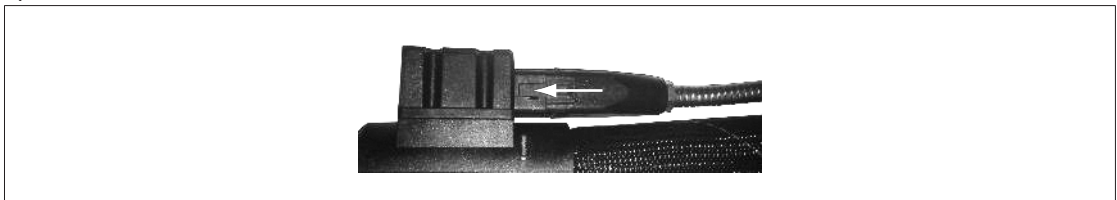

Figure 4: Connect the electrical connection to the mains
3. Insert the electrical connection in the plug connector of the heatable hose (see Figure 4).